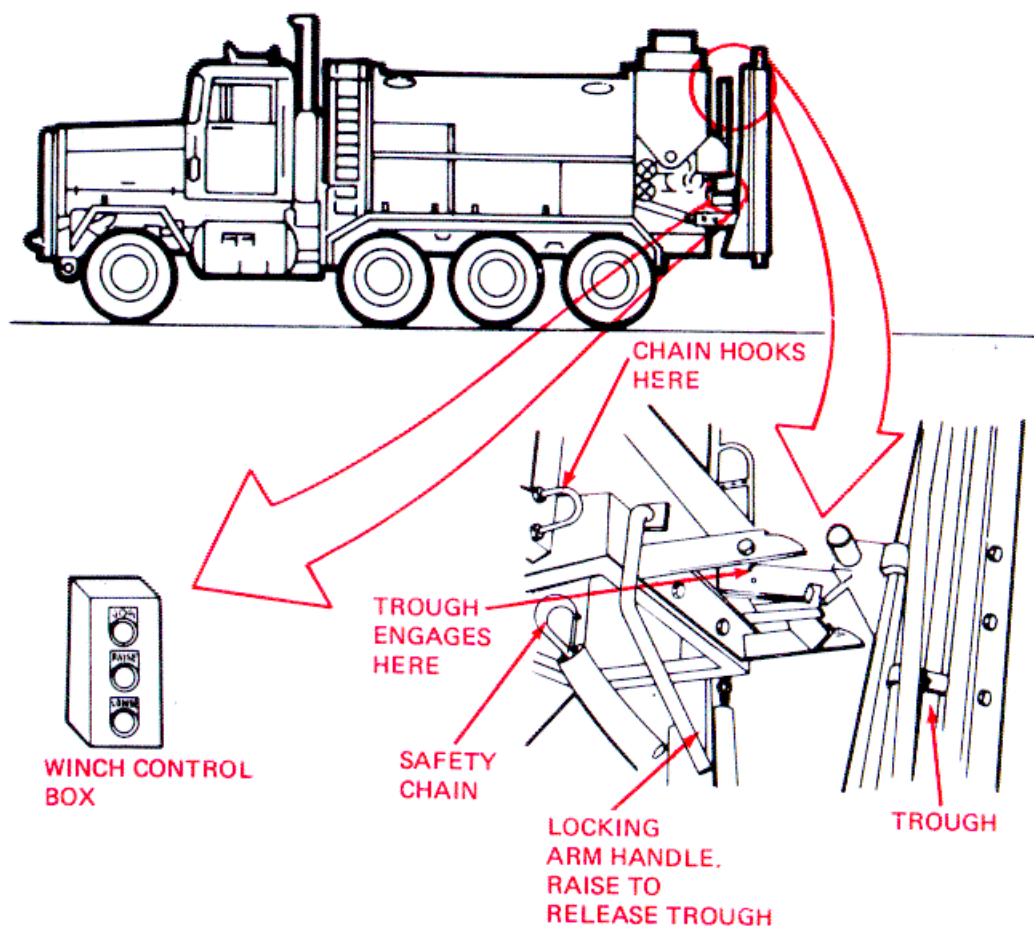

Figure 2-46. Stowing the Mixing Trough.
- (2) Push the RAISE button. Release the button when the mixing trough is engaged by the locking arm (fig. 2-46).
- (3) If the trough stops before the arm is engaged, continue pressing the RAISE button. Push and release the JOG button to raise the mixing trough, until the latch engages (fig. 2-46).
- (4) Check that the mixing trough is held securely by the locking arm. Press the lower button, until cable tension is relieved and latch is supporting mixing trough
- (5) Fasten the safety chain around the mixing trough